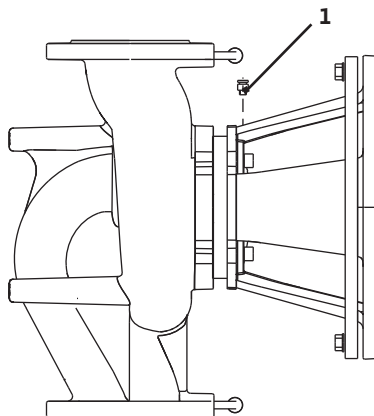

Fig. 38: Bleed valve
- De-pressurise the pump by opening the bleed valve (Fig. 38, Item 1).